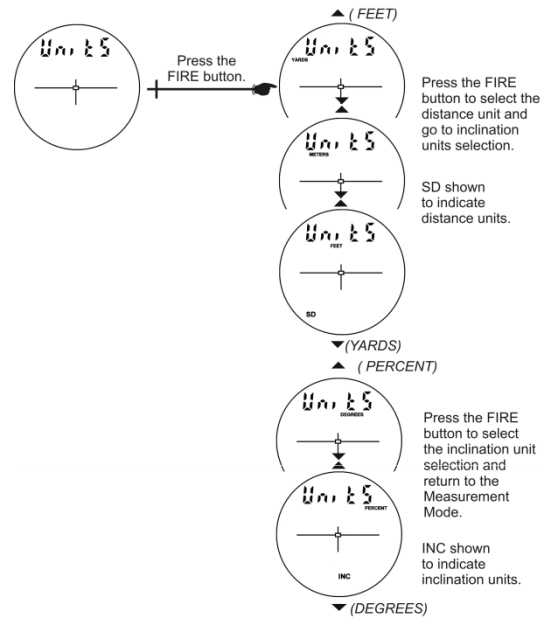

Figure 2. The TruPulse viewfinder, showing units
5. **no** and **dECLn** will blink. Press ▼ until **YES** and **dECLn** blink, then press “Power/Fire” again. The current declination is shown in the viewfinder (Figure 2).